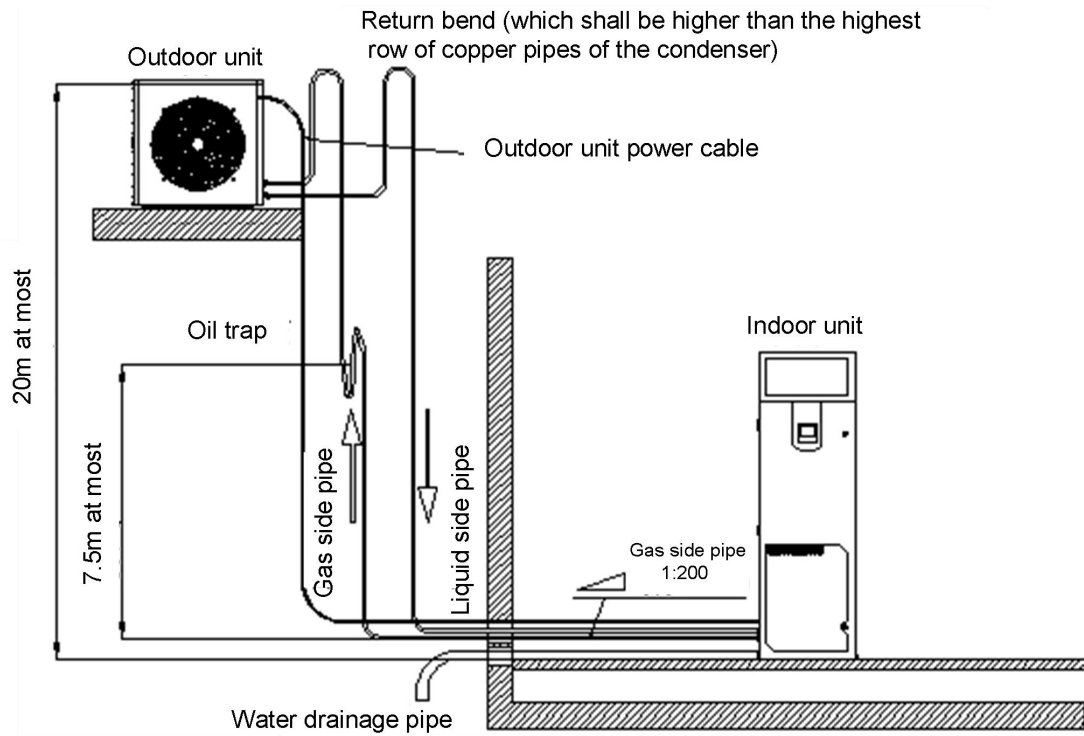
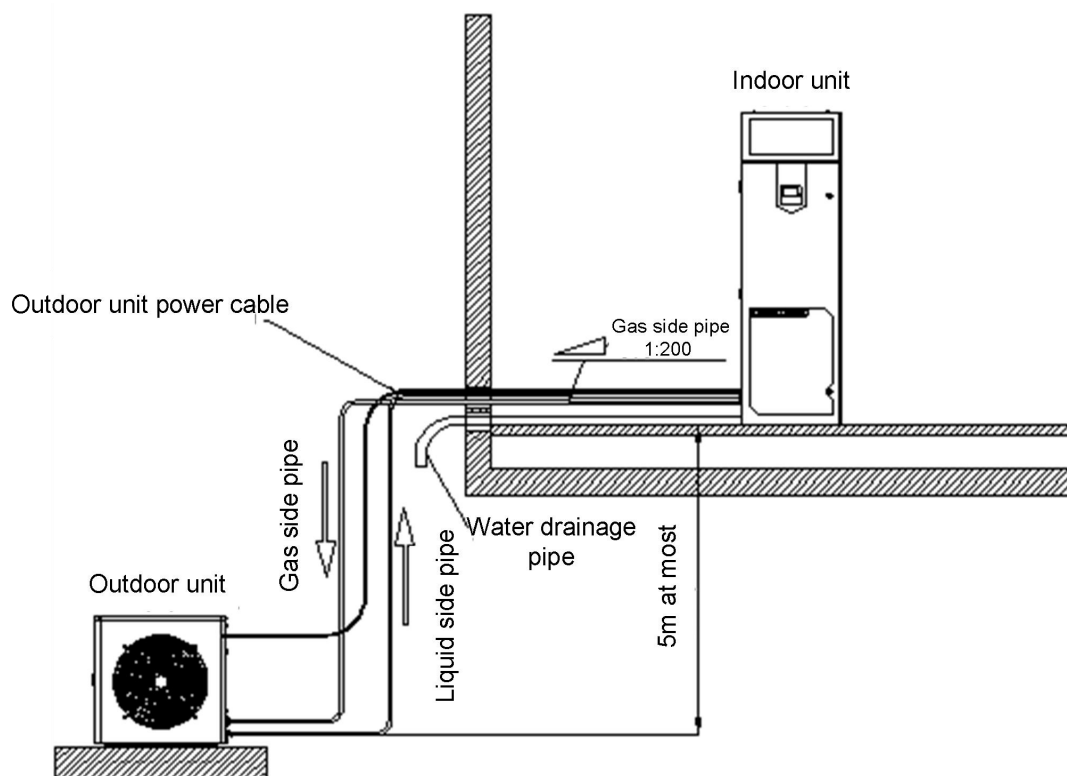

Fig.2-6 Installation diagram (in case the outdoor unit is installed higher than the indoor unit)
Fig.2-7 Installation diagram (in case the outdoor unit is installed lower than the indoor unit)
For the unit installation mode, please refer to Fig.2-6 and Fig.2-7.
- In case that the outdoor unit is installed higher than the indoor unit (see Fig.2-6), note that in the outdoor unit condenser air side pipe and the liquid pipe installed on the reverse side bending, avoid the liquid refrigerant flow when unit stopping, when installing reverse bending, make sure that reverse bending top elbow higher than the top row condenser tubes; if their installation height difference is 6m, an oil trap shall be installed for every 6m of the gas side pipe, to ensure that when the compressor is shut down and restarted, the compressor oil in the higher gas side pipe (vertical height) that reflows to the oil trap can be taken away quickly.